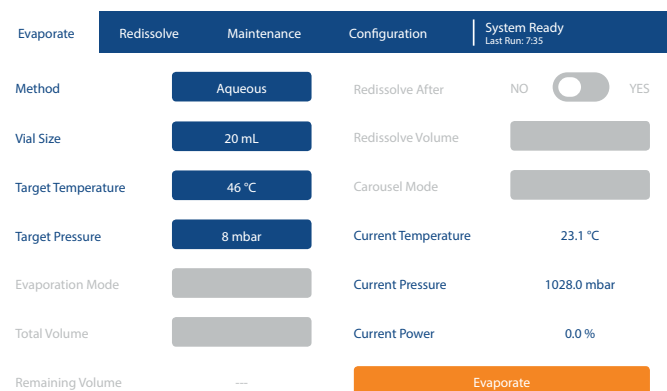

Figure 19. The Evaporate view during setup. This system has neither a built-in sample pump nor a carousel.
5. Select **Evaporate** from the menu bar and set up the run; see Figure 19. For more information, see "Evaporation Parameters" below.